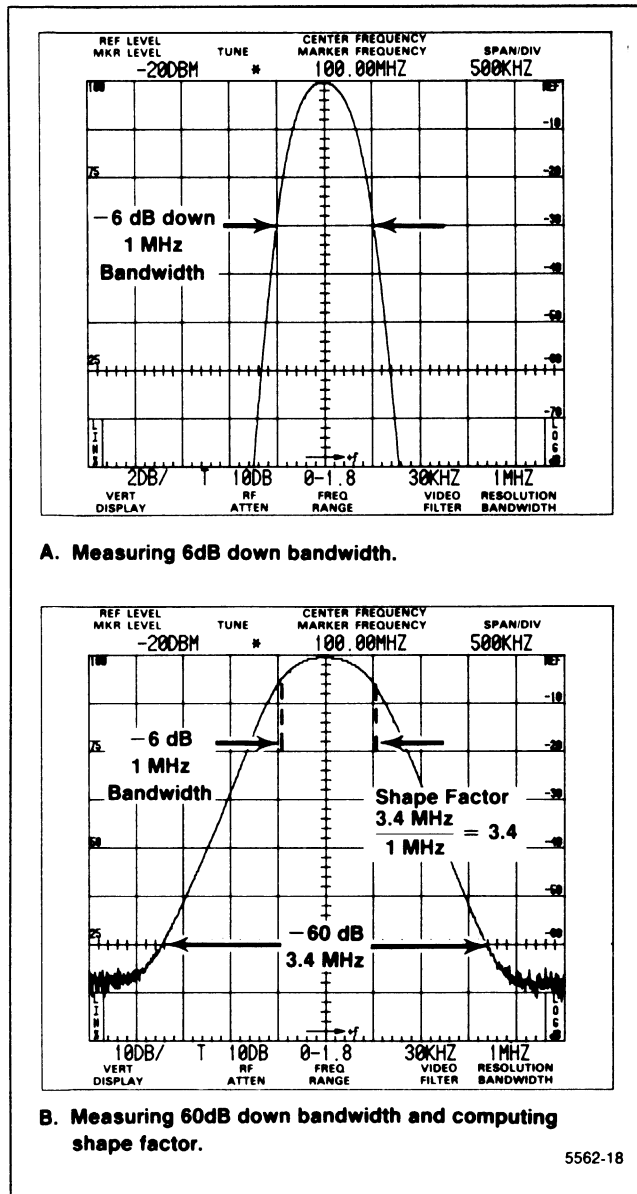

Figure 4-7. Typical display for measuring bandwidth and shape factor.
d. Check that the shape factor is 7.5:1 or less. The shape factor is the ratio of -60 dB/-6 dB bandwidths (see Figure 4-7).